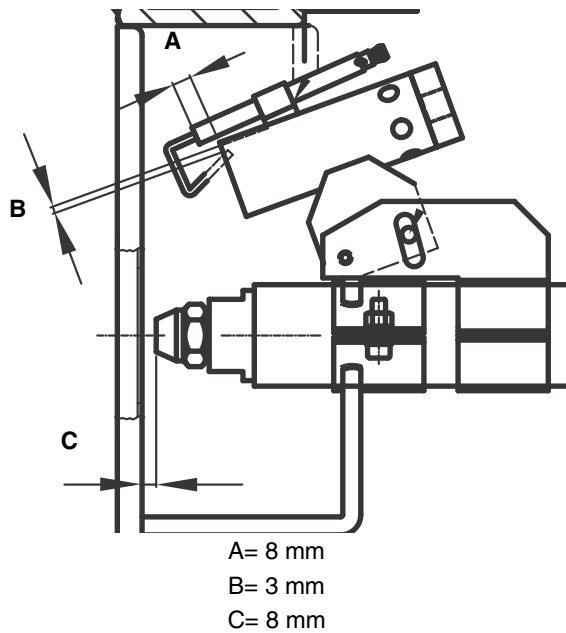

Fig. 25
- Check and clean the ignition electrode on the pilot burner, adjustment and, if necessary, replacement (Fig. 25).
To guarantee a good ignition, the measures below (in mm) must be observed (Fig. 25).
- 5 remove the electrode and replace it referring to the measures shown on Fig. 25.